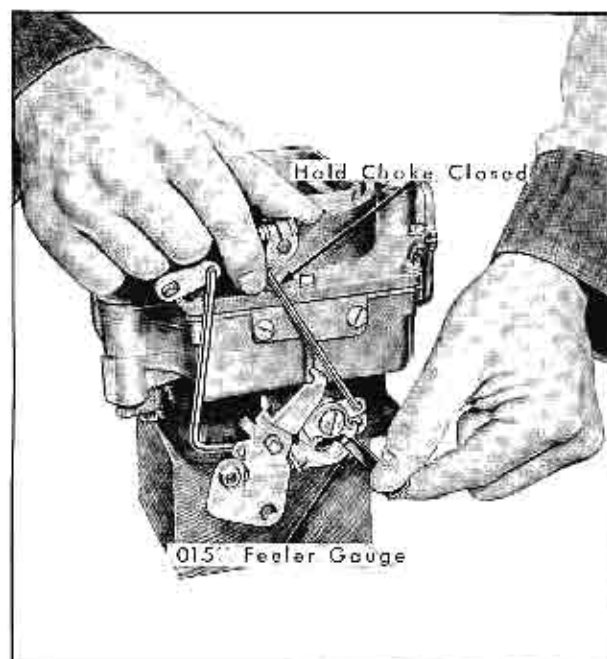

Fig. 12-40 Secondary Lockout-Choke On
3. Holding choke valve closed, adjust secondary throttle shaft tang sideways, using heavy pliers, as required to obtain a clearance between this tang and the secondary lockout cam of .015", measured with a feeler gage as shown in Fig. 12-40.